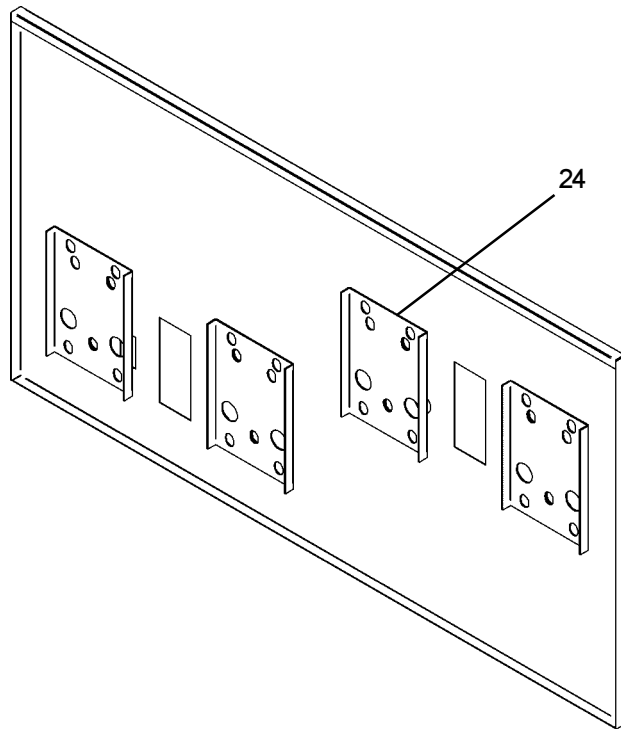

FIG. 9
Installing back panel: When installing back panel without mounting plate accessory, attach (4) channel braces as shown in FIG. 9. Remove the protective backing from the tape installed on the brace. Line up the corresponding holes in the brace and back panel and press firmly in place.